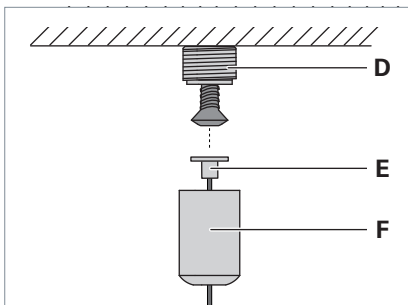

Fig. 7: Mounting the ceiling fixture.
- ▶ Screw the thread **D** to the ceiling at the distance **a** from the previously mounted holding plate using a suitable screw, see Tab. 2 and Fig. 7.